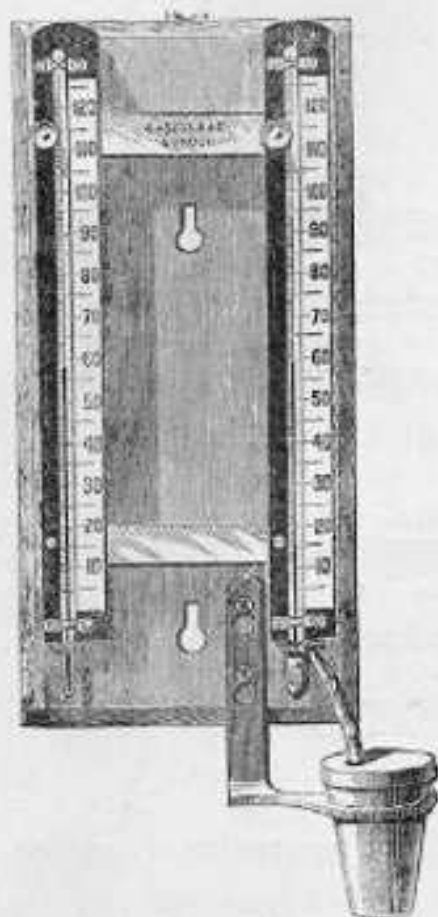

FIG. 10.
**Mason's Hygrometer** (Fig. 10). Kew Pattern, with opal glass scale, mounted on polished mahogany board for suspension. The thermometers are divided on the stem, and the figures indelibly burnt in on opal scales.